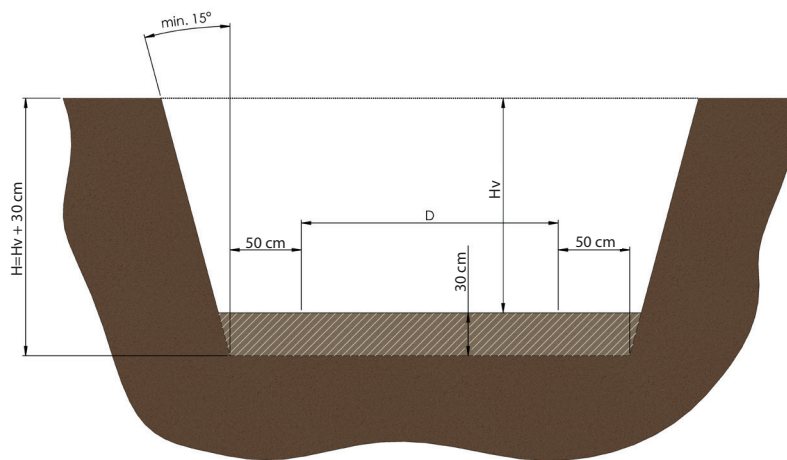

Figure 5: Sketch of the construction pit
The excavation of the construction pit should take place in the configuration set out in Figure 5. The maximum depth of the installation must be sufficient for the thickness of the base and the installation height of the ECOdip containers. The installation heights (H_v) of the containers are marked with a rectangular border in Figure 2, while various diameters (D) of the containers are circled in Figure 2.
On all sides, the construction pit must be 50 cm wider than the diameter (D) of one container or of an assembly of containers, and excavated at an angle of at least 15 degrees (Figure 5). The substrate must be 30 cm thick and compressed to a value of 45 MPa according to Evd dynamic deformation modulus. To prepare the substrate, use crushed material containing a mixture of grains in sizes ranging from 0 to 16 mm, or round grain material (gravel) containing a mixture of grains in sizes ranging from 0 to 32 mm.